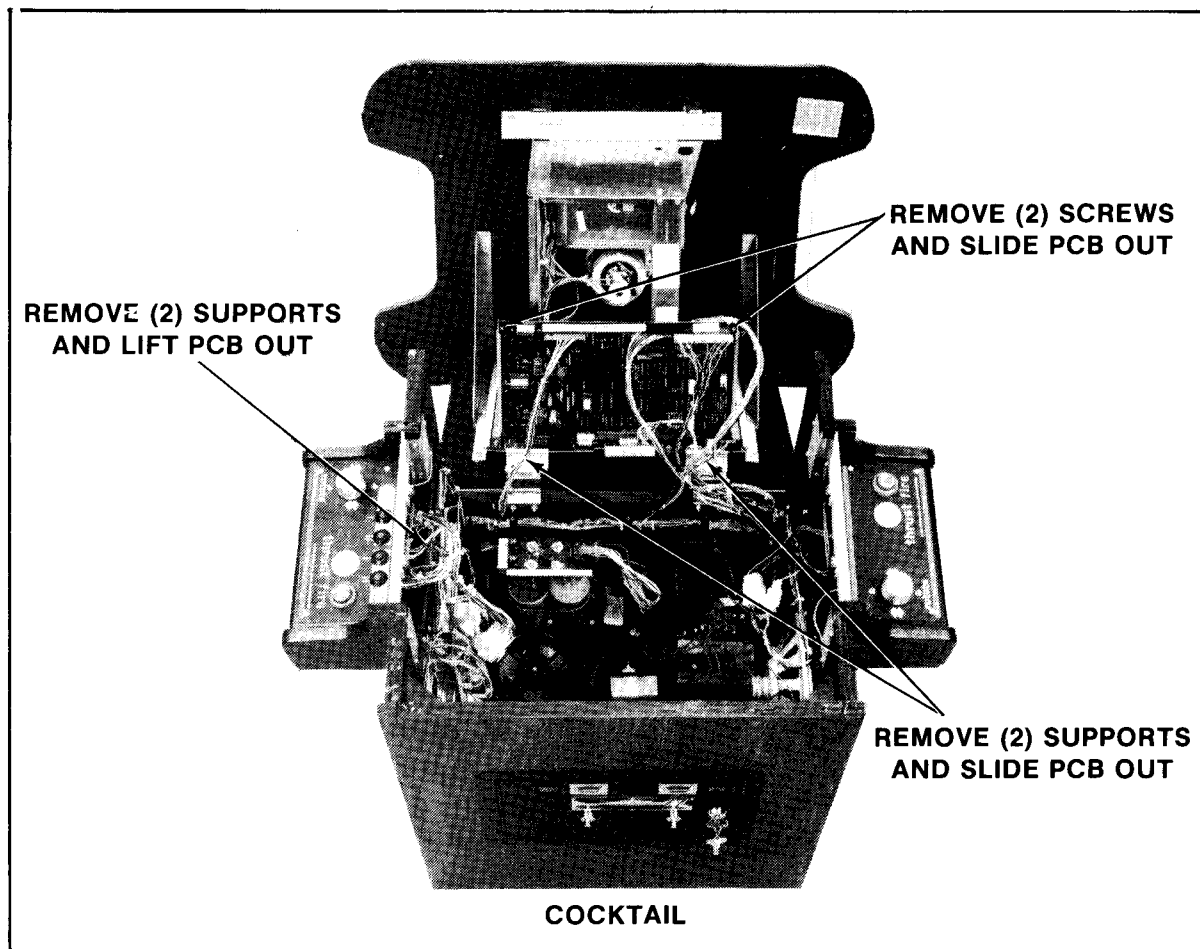

FIGURE 33
- d. To remove the linear power supply board — See Figure 33.
- e. To remove the mother and daughter boards — See Figure 33.
- v. Remove the screws from the P.C.B. supports indicated in Figure 33 and then remove the supports.